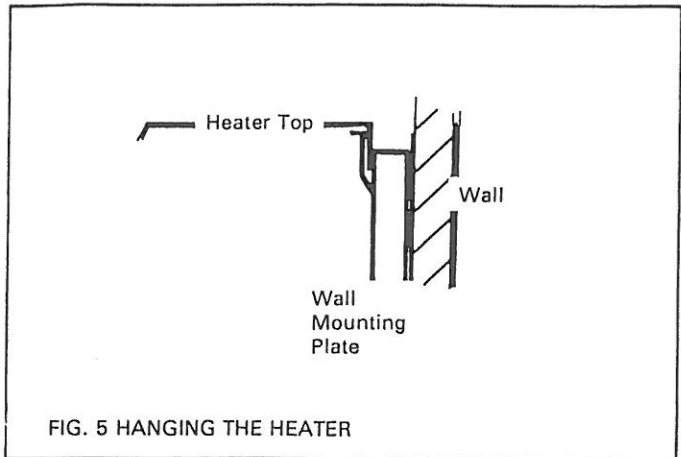

FIG. 5 HANGING THE HEATER
6. Hang the heater on the upper mounting plate. The rear edge at the top of the heater must be properly located over the top edge of the mounting plate (fig. 5).